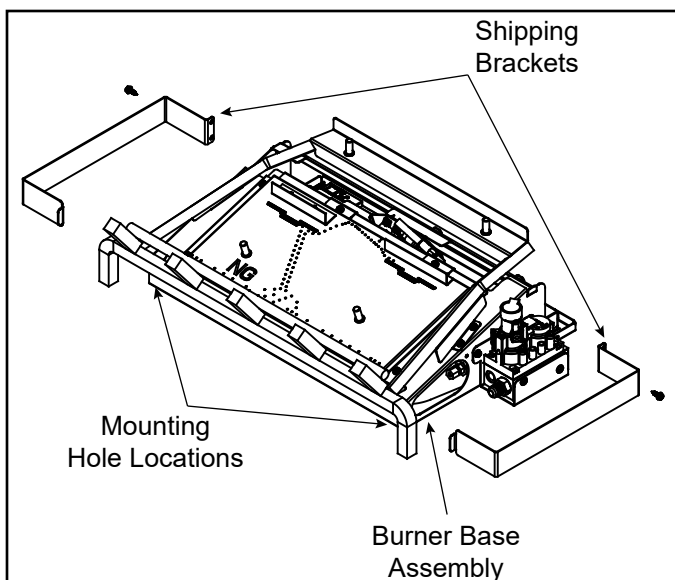

Figure 9.1 Mounting Holes
1. Remove and discard shipping brackets supplied on burner. See Figure 9.1.
5. Once the appliance is positioned correctly, side to side and front to back, mark the mounting hole positions on the fireplace floor. See Figure 9.1 for mounting hole locations.
6. Drill (2) 5/32" diameter holes approximately 1-1/2" deep.